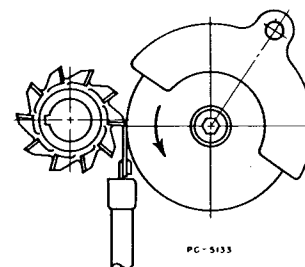

Figure 19A
**Direction of Rotation of Grinding Wheel.** The normal direction of rotation of the grinding wheel is towards the cutting edge of the tooth, as shown in Figure 19A. The chief advantage is important—there are no burns left on the cutting edges of the teeth to be removed by a time consuming oil stone operation. Clockwise rotation of the grinding wheel (Figure 19A) can be obtained by throwing grinding wheel spindle switch to the right (See "Electrical Control Panel", page 12).